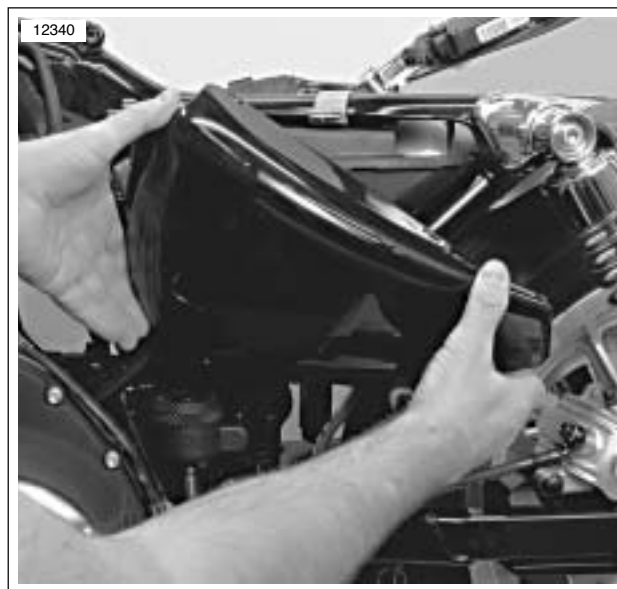

Figure 1-13. Removing Left Side Cover
2. See Figure 1-13. Lift side cover up and tilt cover to the rear of the motorcycle. With a slight back and forth rocking motion, pull up gently until cover disengages from mounting tab on battery tray.